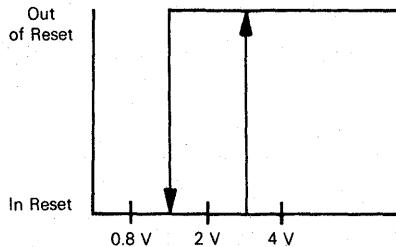

Figure 7-1. Typical Reset Schmitt Trigger Hysteresis
The MCU can be reset three ways: (1) by initial power-up, (2) by the external reset input ($\overline{\text{RESET}}$) and (3) by an optional, internal, low-voltage detect circuit (not available on the MC68705P3 EPROM version). The $\overline{\text{RESET}}$ input consists mainly of a Schmitt trigger that senses the $\overline{\text{RESET}}$ line logic level. A typical reset Schmitt trigger hysteresis curve is shown in Figure 7-1. The Schmitt trigger provides an internal reset voltage if it senses a logical zero on the $\overline{\text{RESET}}$ pin.